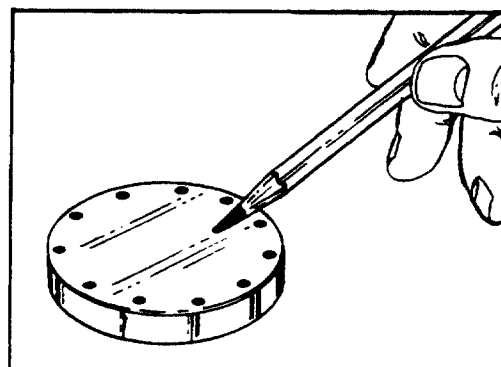

FIGURE 30.
38. The rotor side of the drive plate (26) should show the "normal" spiral pattern due to rotor movement. Inspect the thrust bearing side of the plate for brinelling (dents) or spalling (flaking). The flat sides of the input shaft engagement hole should not be grooved or worn. If any of these conditions are present, the drive plate (26) must be replaced. See figures 30 and 31.